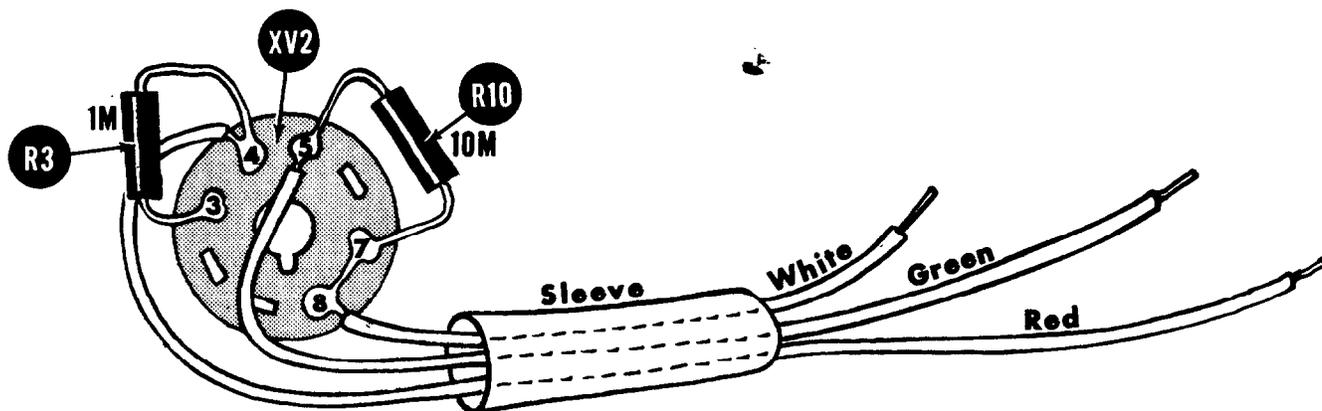

Fig. 3
- () Fig. 3. Connect the 1 MΩ resistor R3, from XV2-3 (S) to XV2-4 (C). (XV2 is the octal molded socket.)
- () Fig. 3. Connect a 9 in. length of red hook-up wire to XV2-4 (S).
- () Fig. 3. Connect a 11 in. length of green hook-up wire to XV2-5 (C).
- () Fig. 3. Connect the 10 MΩ resistor, R10, from XV2-5 (S) through XV2-7 (S) and to XV2-8 (C).
- () Fig. 3. Connect a 4 1/2 in. length of white hook-up wire from XV2-8 (S).
- () Fig. 3. Pass the 3 wires through the insulating sleeve.